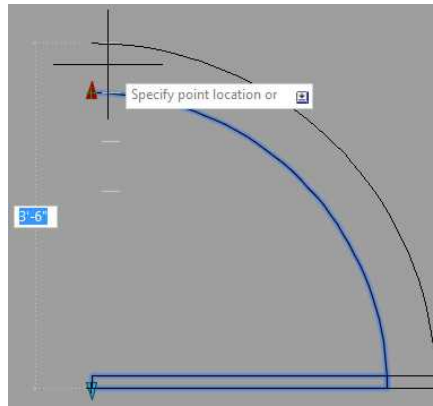

FIGURE 9.49 : Using Test Block to verify the functionality of the Distance parameter
7. Select the block, and then use the light-blue arrow to test the Distance parameter you added to the A-DOOR-36IN (A-DOOR-0915) block, as shown in Figure 9.49.